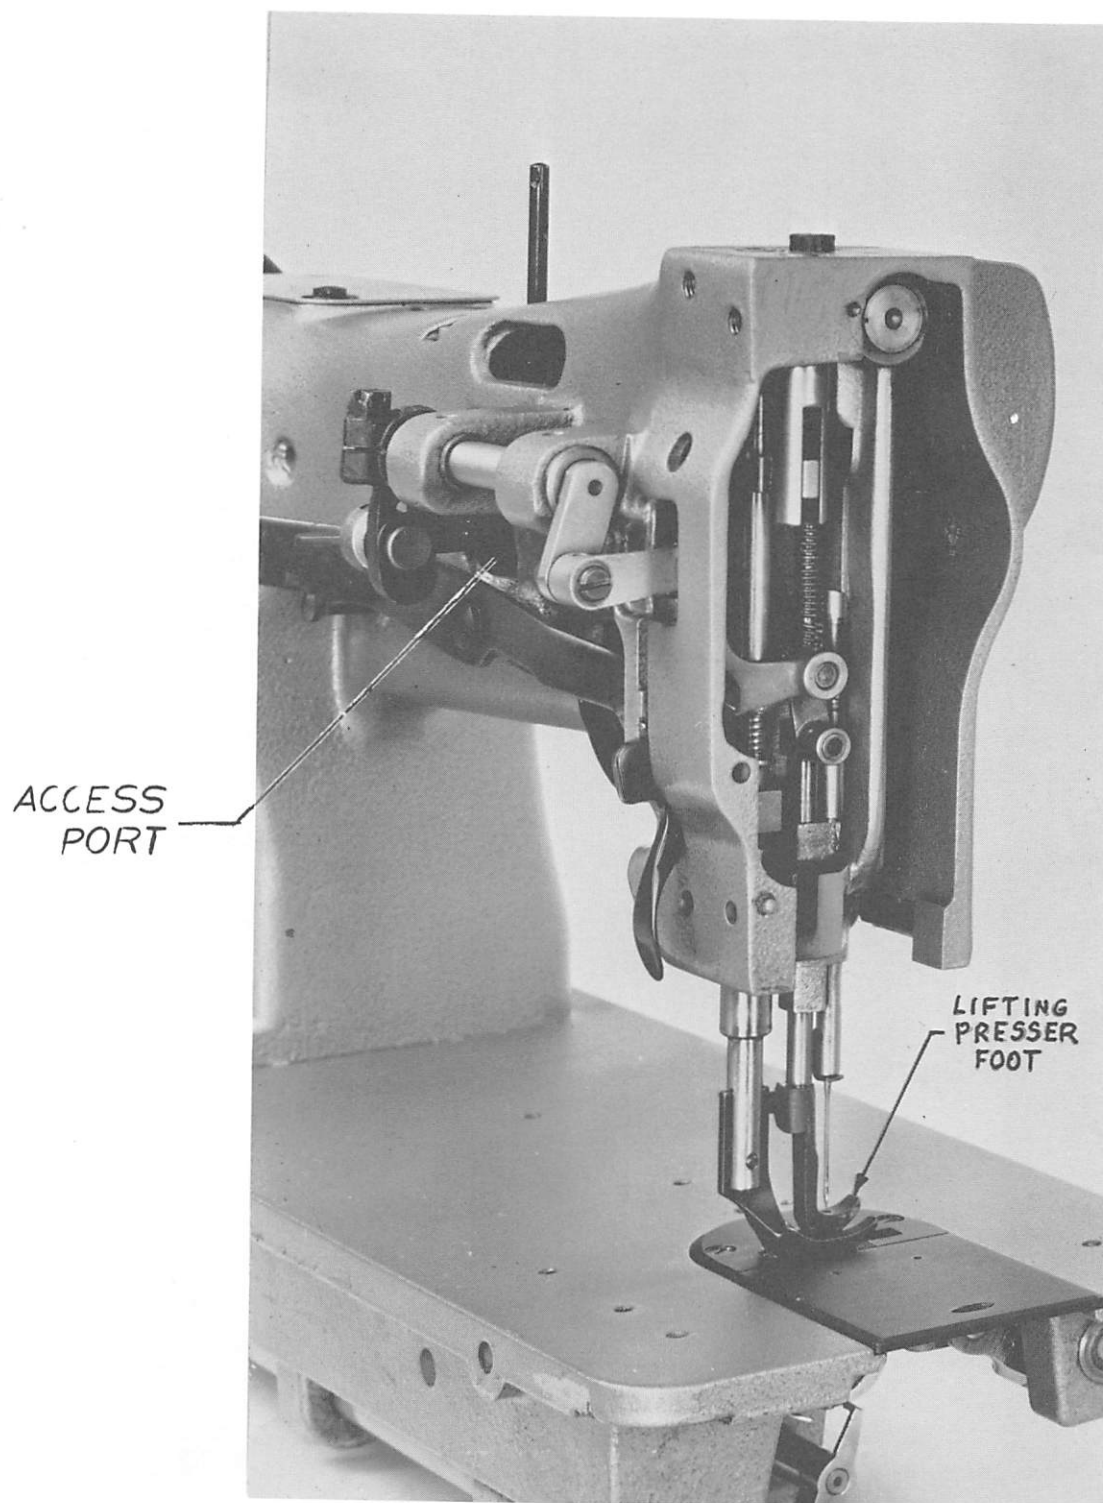

FIG.13
- i) The lifting presser foot eccentric is located in the access port area noted in fig. 13.